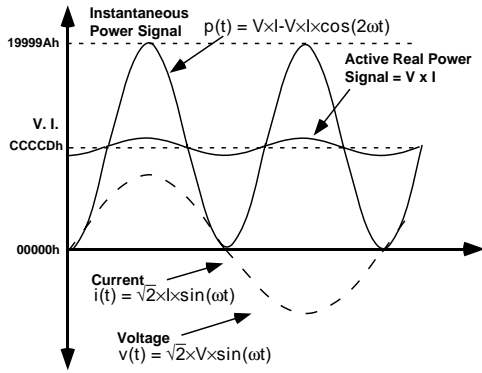

Figure 31– Active Power Calculation
P is referred to as the Active or Real Power. Note that the active power is equal to the dc component of the instantaneous power signal $p(t)$ in Equation 3, i.e., VI. This is the relationship used to calculate active power in the ADE7753. The instantaneous power signal $p(t)$ is generated by multiplying the current and voltage signals. The dc component of the instantaneous power signal is then extracted by LFP2 (Low Pass Filter) to obtain the active power information. This process is illustrated graphically in Figure 31.
As mentioned in the last section, the discrete time sample period (T) for the accumulation register is 1.1µs (4/CLKIN). With full-scale sinusoidal signals on the analog inputs and the WGAIN register set to 000h, the average word value from each LPF2 is CCCCdh - see Figure 31. The maximum positive value which can be stored in the internal 53-bit register is $2^{52} - 1$ or F,FFFF,FFFF,FFFFh before it overflows, the integration time under these conditions with WDIV=0 is calculated as follows: